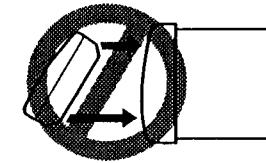
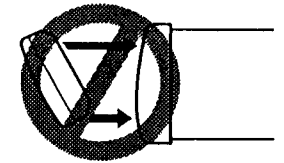
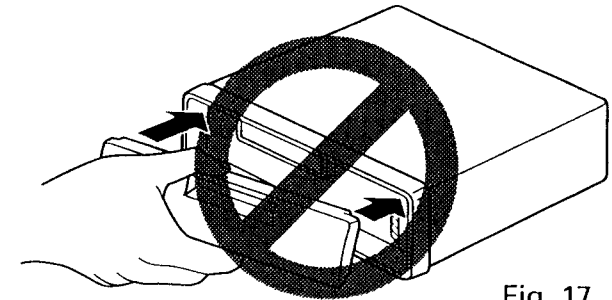

Fig. 15
Fig. 16
Fig. 17
- Install the front panel holding it parallel to the main unit. Installing the panel tilted, as shown in the illustrations below, may cause the hook on the front panel to destroy the main unit's electrodes. (Fig. 15) (Fig. 16) (Fig. 17)